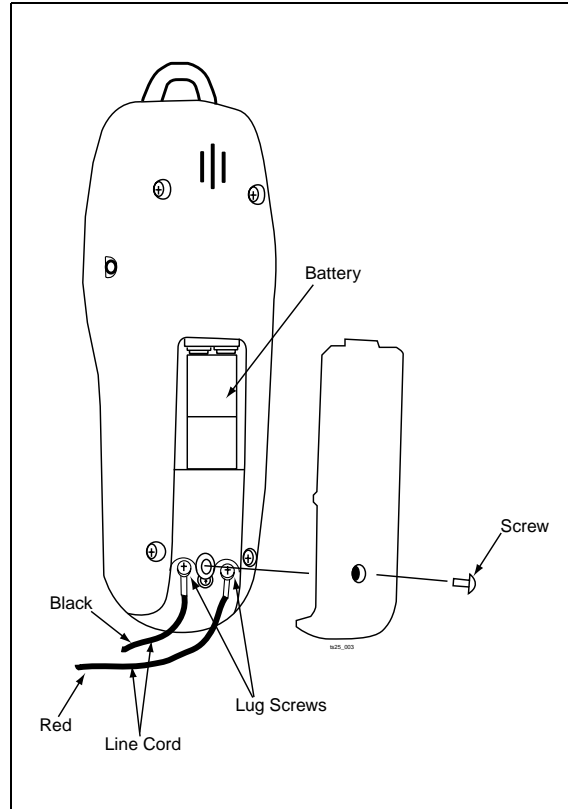

Figure 3. Battery and Line Cord Replacement
To replace the battery (see Figure 3):
To replace the line cord (see Figure 3):
8. Fasten the red wire lug to the PCB (Ring) with screw and washer (see Figure 3).
9. Fasten the black wire lug to the PCB (Tip) with screw and washer (see Figure 3).
Note: It is important to install the red and black wires as shown in Figure 3 so the polarity icon will work correctly.